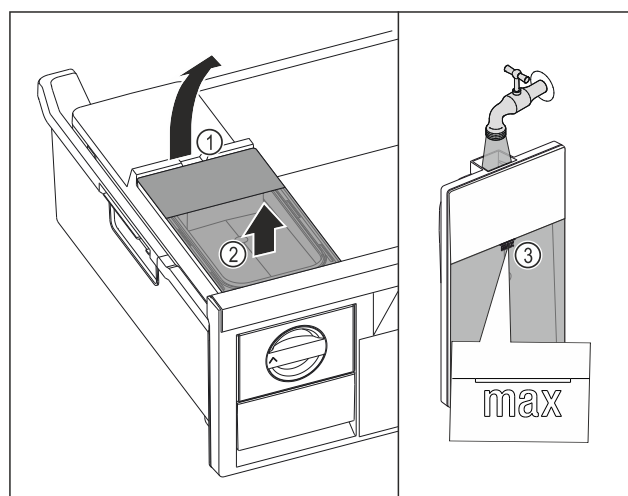

Fig. 81
- Lift the water tank at the recess Fig. 81 (1).
- Remove the water tank by lifting it upward. Fig. 81 (2)
- Fill the water tank with drinking water up to the mark Fig. 81 (3).